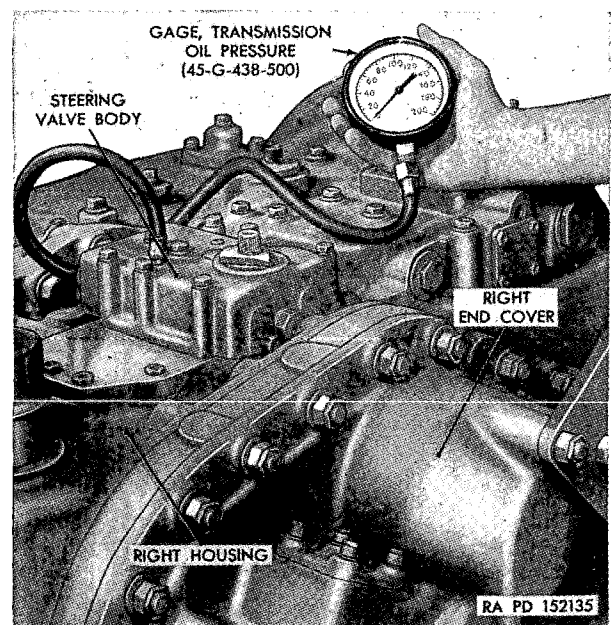

Figure 396. Checking transmission oil pressures.
a. TEST EQUIPMENT. To conduct the tests outlined in this section, the equipment listed in (1) through (5) below is needed.
- (1) A test stand for mounting the power package (engine, transmission, and coolers), and engine tachometer and two hand tachometers.
- (2) A mechanism (levers and air operated piston) for applying the service brakes. This mechanism must apply 240 pound-feet torque to the two brake-apply shafts simultaneously.
- (3) Nine oil pressure gages (45-G-438-500) with a capacity of 200 psi and one with a capacity of 100 psi (fig. 396). These gages should be mounted on a panel.
- (4) One temperature gage with readings up to 400° F.
- (5) Mechanism (set of bellcranks) for operating the shift shaft and the steering shaft.